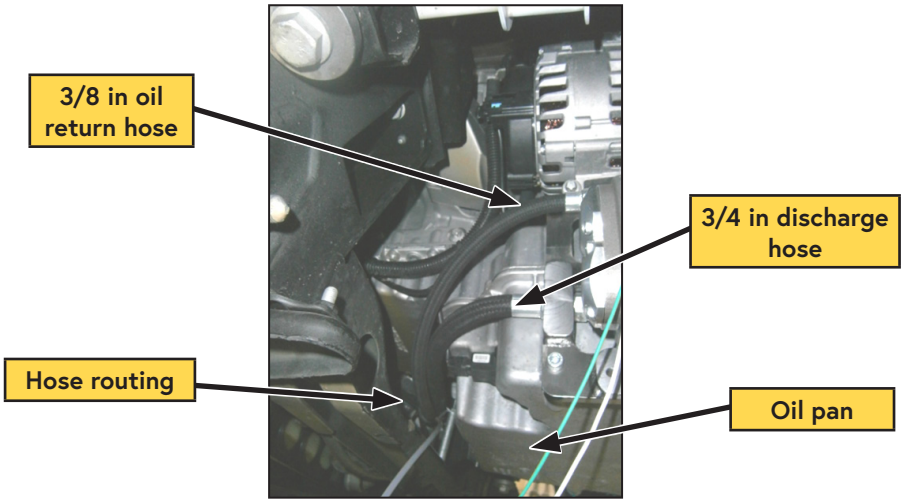

Figure 35 — Hose routing
- Route the 3/4 in × 118 in and 3/8 in × 118 in hoses as well as the 1/4 in × 140 in PTFE tube behind the engine oil pan, positioning them 90° toward the driver side of the vehicle (Figure 35).